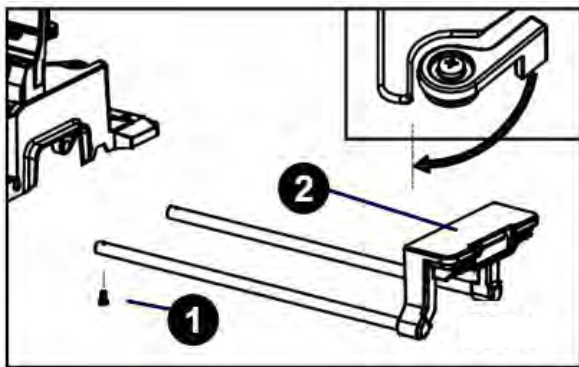

Fig. 7: Mounting the extension table
- Step 1: Remove the screw (Pos. 1, Fig. 7) on the table extension (pos. 2, fig. 7).